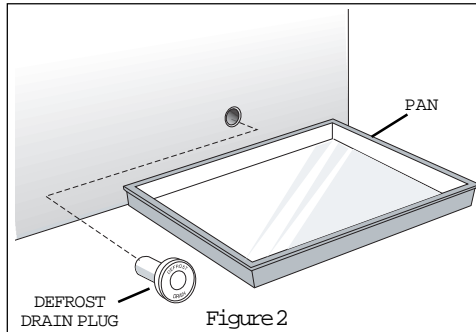
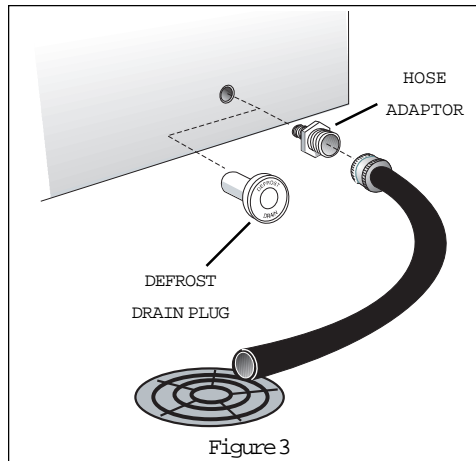
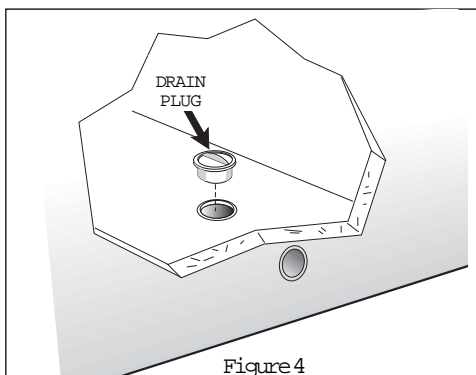

Figure 2
Figure 3
Figure 4
- **On chest models** with a defrost drain, place a shallow pan or the Divider/Drain Pan (some models) beneath the drain outlet (Figure 2). A one half inch garden hose adaptor can be used to drain the freezer directly into a floor drain (Figure 3). If your model is not equipped with an adaptor, one can be purchased at most hardware stores. Pull out the drain plug inside the freezer, and pull off the outside defrost drain plug (Figure 4). Defrost water will drain out. Check pan occasionally so water does not overflow. Replace the drain plugs when defrosting is completed.